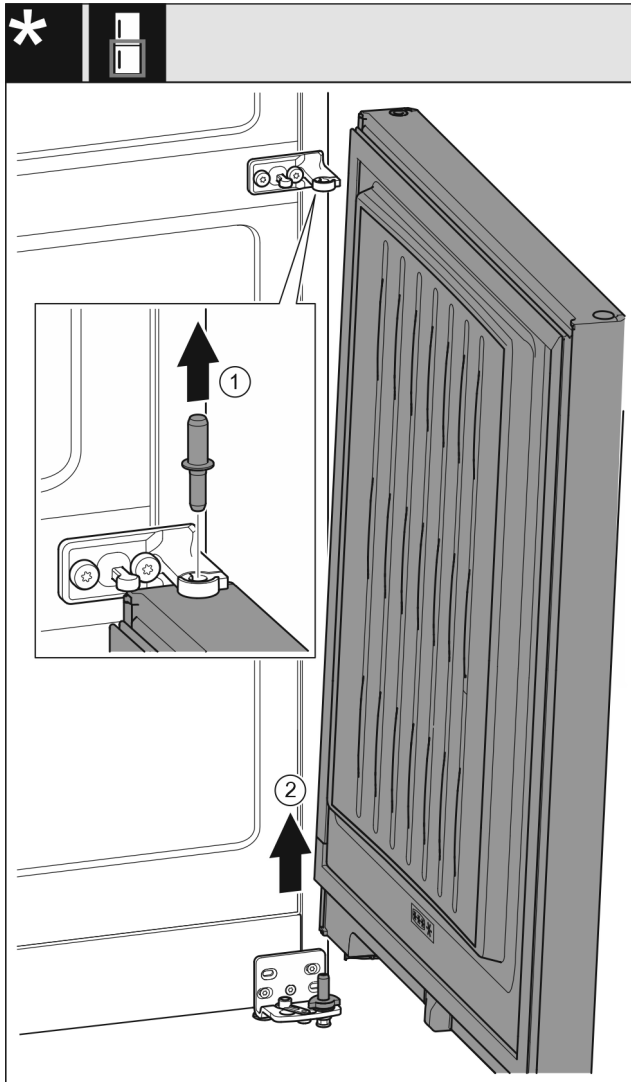

Fig. 11 Without closing damper
- Pull out the pin Fig. 11 (1) upward.
- Swivel out the door Fig. 11 (2), pull it upward, and set it aside.